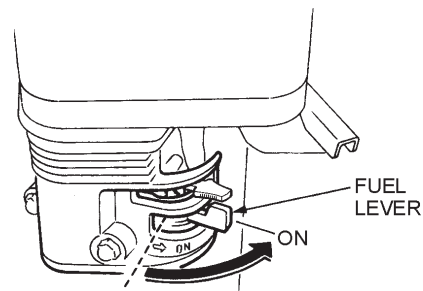

**Figure 13. Handle Adjustment**
1. Loosen the butterfly screw (Figure 13).